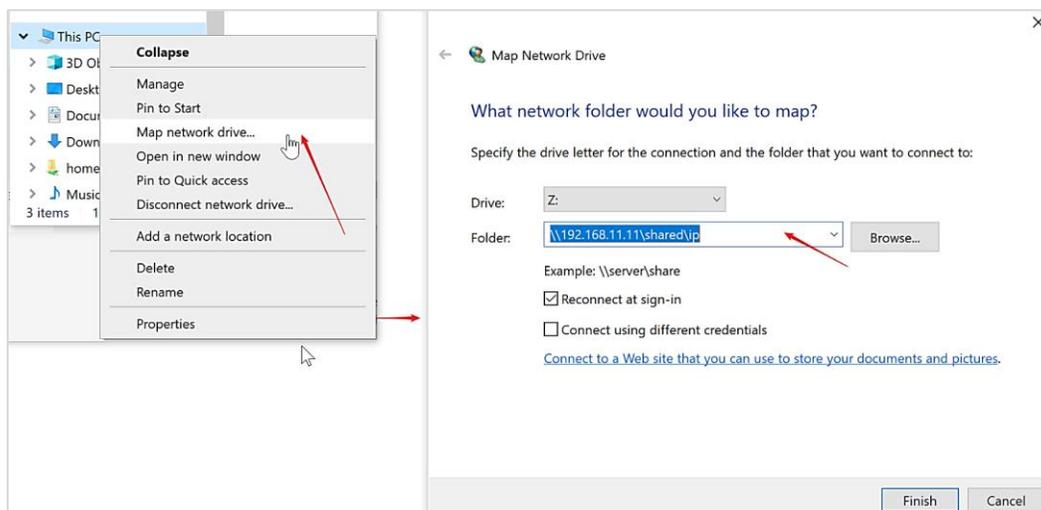

Figure 2.99. Map Network Device
IP Public Path does not support network path in Windows Operation System (OS), for example, \\192.168.11.11\shared\ip. Workaround for this is to map the Network Drive with the network path and set the path with a local disk (Figure 2.99).